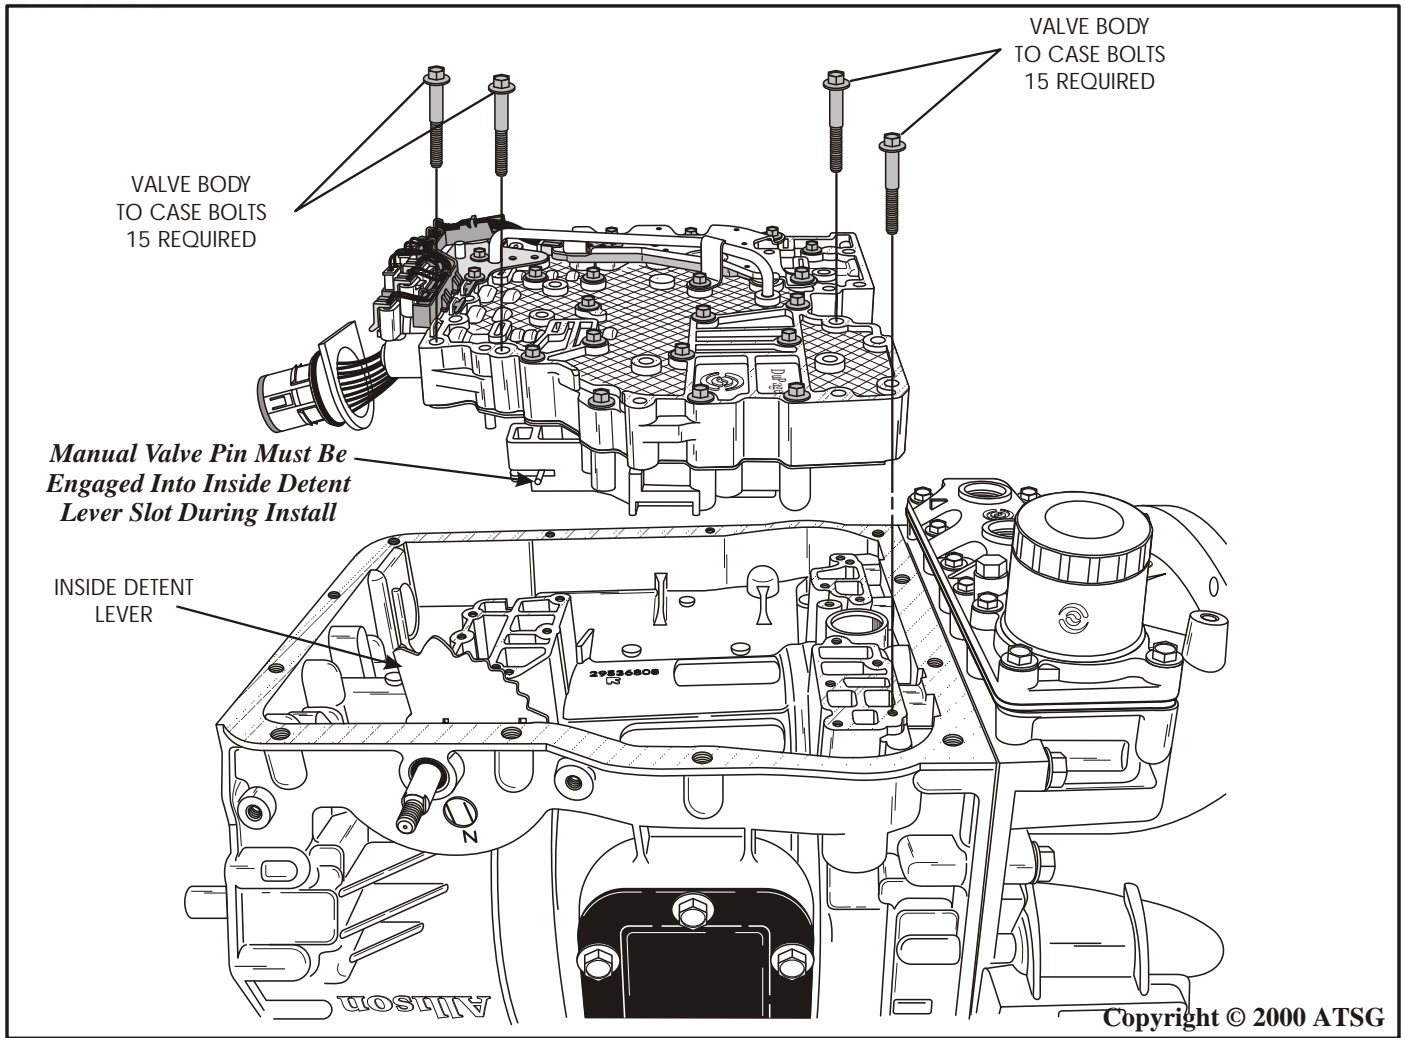

Figure 171
55. Install the pre-assembled valve body assembly onto the case, as shown in Figure 171.